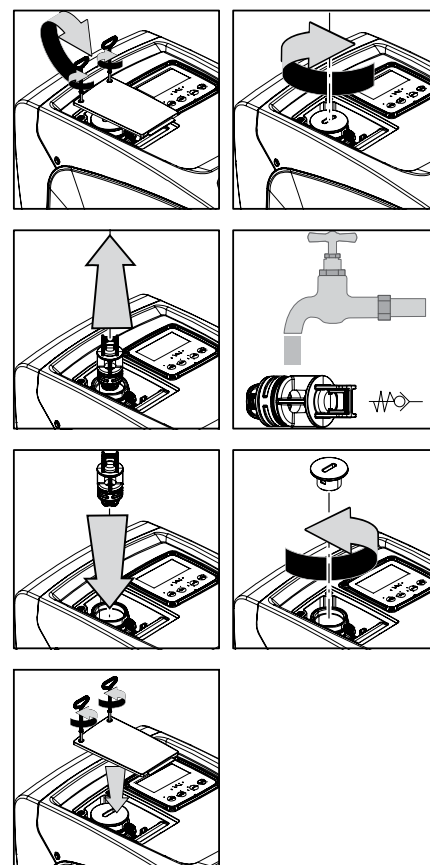

Figure 22
1. remove the access door to the special maintenance compartment (Fig.1 Face F) disengaging the 2 fixing screws with the accessory tool. It is advisable not to remove the screws completely, so that you can use them to extract the door. Take care not to drop the screws inside the system once you have removed the door (Fig.22);
2. using a screwdriver, remove the 1"1/4 cap so as to access the check valve (Fig.22);
3. using pliers, extract the cartridge of the check valve without rotating it, gripping it by the jumper provided for the purpose (Fig.22): the operation may require a certain effort;
5. put the complete cartridge back in its seat: the operation requires the force necessary to compress the 2 O-Rings (Fig.22);
6. Screw on the 1"1/4 cap until it is snug: if the cartridge has not been pushed correctly in place, screwing on the cap will complete its positioning (Fig.22);
7. reposition the door and tighten the 2 screws (Fig.22).